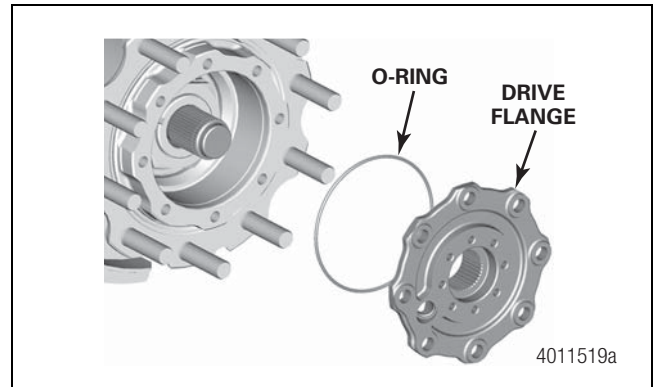

Figure 7.21
1. Install a new O-ring on the drive flange. Figure 7.21.